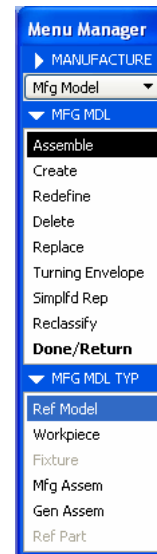

Figure 2b: Reference Model
Step 3: Select **MFG MODEL >> ASSEMBLE >> Ref MODEL** on the Menu Manager. (Figure 2b)